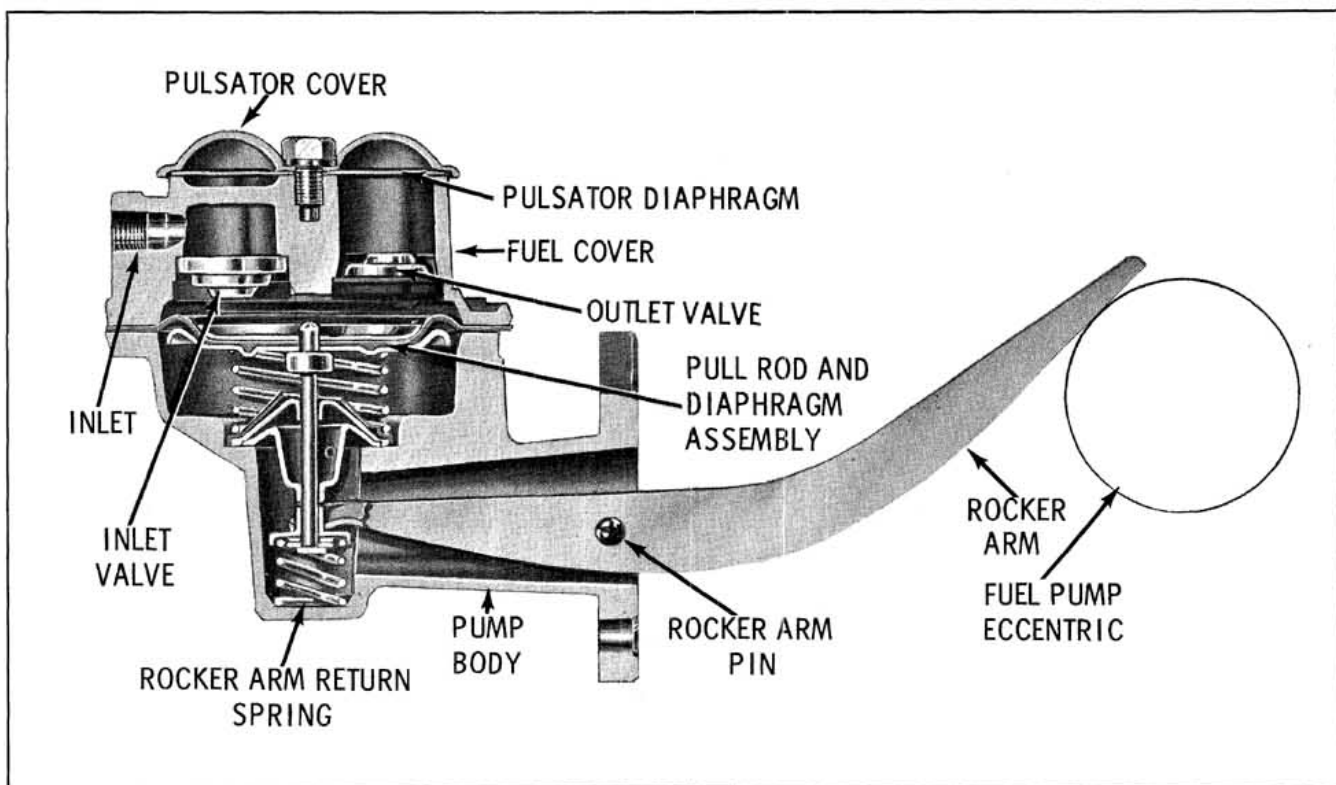

Fig. 3-133 Fuel Pump Assembly
The fuel pump rocker arm is held in constant engagement with the eccentric on the camshaft by the rocker arm spring. As the end of the rocker arm which is in contact with the eccentric moves upward, the fuel link pulls the fuel diaphragm downward. The action of the diaphragm enlarges the fuel chamber drawing fuel from the tank through the inlet valve and into the fuel chamber. (Fig. 3-133)
5. Position the rocker arm in the pump body with the forked end of the rod on the rocker arm return spring retainer portion of the pull rod assembly. Make sure that the rocker arm return spring is properly seated in the spring retainer of the pull rod end of the diaphragm assembly. (Fig. 3-133)